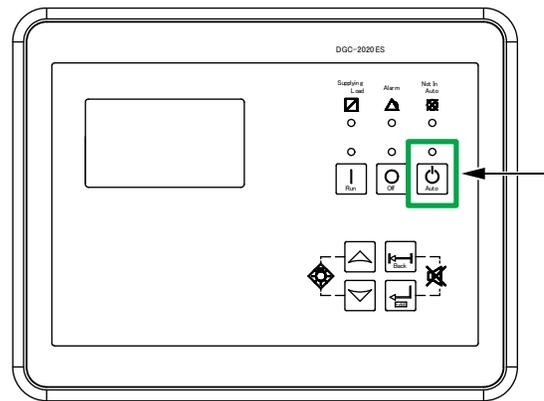

Figure 36. Digital Controller (Auto Button)
3. Press the **Auto button** (Figure 36) on the digital controller. When a start signal is received from the auto-start contacts, the engine will start automatically after the preheating process has completed.